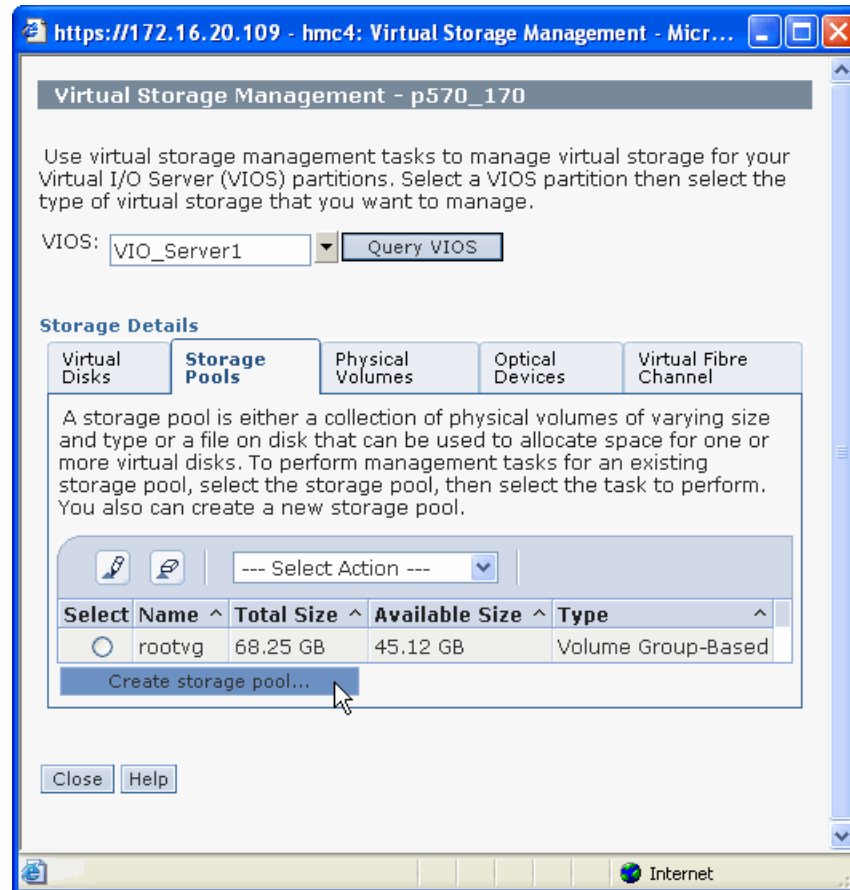

Figure 16-11 Creating a storage pool using the HMC
3. Change to the **Storage Pools** tab and click the **Create storage pool** button as shown in Figure 16-11.